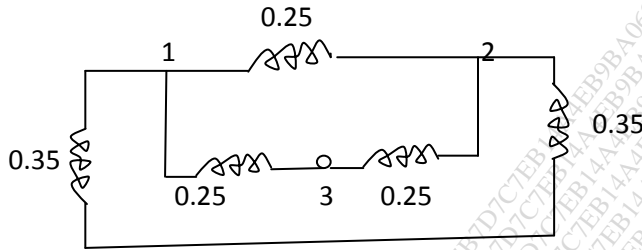

Fig 4.
b) Build Z_{BUS} , by using Z Bus algorithm for the network shown in fig4 7